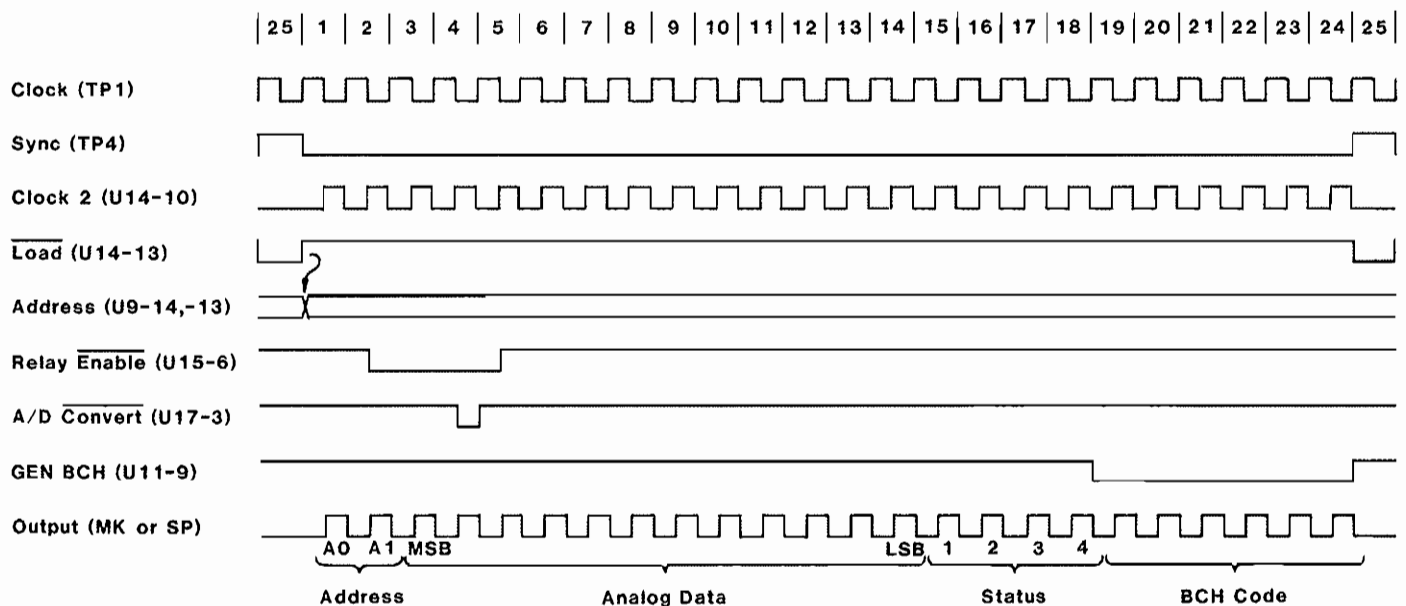

Figure 3. IAT Analog Transmitter—Timing Diagram
4.19 U17, U23F, and U22B use outputs from counters U16 and U18 and the clock to generate a series of pulses used to time events. The negative-going pulses occur during the second half of clock periods 2,4,5, and 18 as shown in Figure 3. The first pulse at U17-1, sets the latch formed by U15A and U15B and enables the selected relay. The third pulse, during clock period 5, resets this latch and disables the relay. The pulse at clock period 4 is